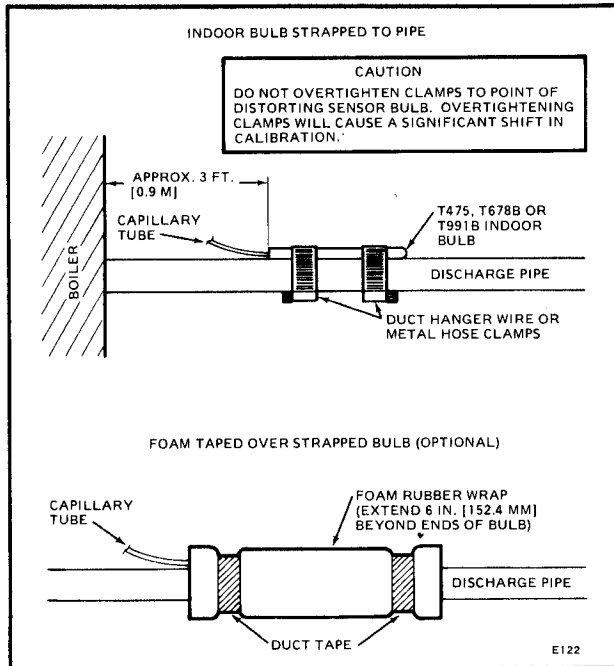

FIG. 13—STRAP-ON MOUNTING OF T991B INDOOR BULB ON A BOILER DISCHARGE PIPE.
1. Secure controller bulb to pipe with duct hanger wire or metal hose clamps (Fig. 13, top).
2. Cover bulb and pipe with foam rubber insulation extending at least 6 in. [152 mm] beyond both ends of bulb (Fig. 13, bottom).